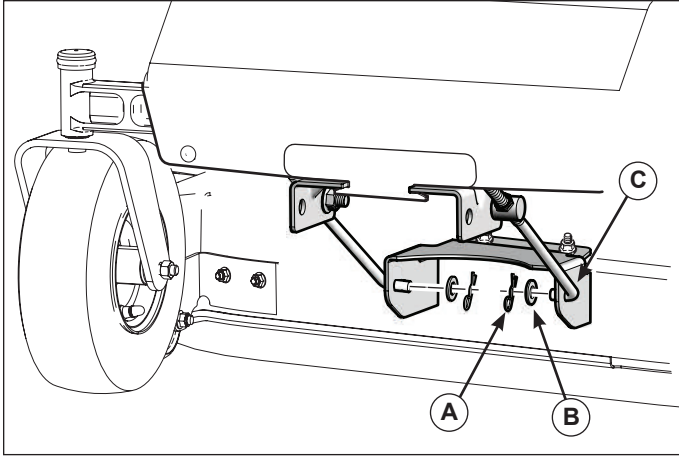

Figure 17. Rear Lift Arms
9. Remove the hair pin clips (A, Figure 17) and washers (B) that secure the rear lift arms (C). Separate the rear lift arms from the mower deck.
3. Slide the mower deck backward and connect the rear lift arms to the mower deck. Secure with washers (B, Figure 17) and hair pin clips (A).